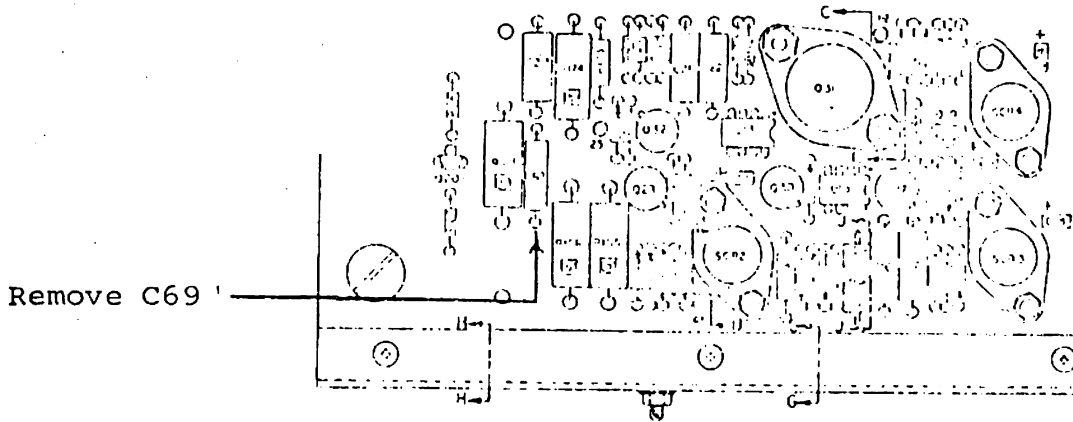

FIGURE 1
1.1 Remove .001 ufd capacitor designated as C69. (See Figure 1)